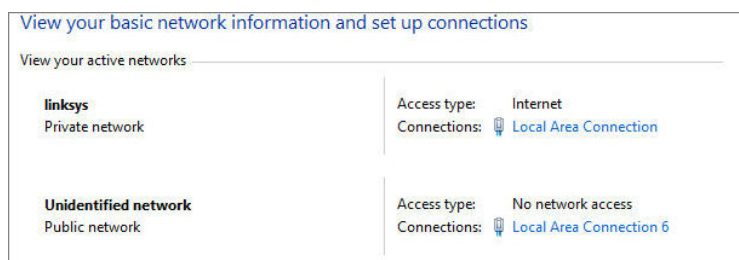

Figure 3.10 Network and Setup Connections
- 4 Select one of the active networks in the **Network and Sharing Center** dialog. See Figure 3.10 for available options.